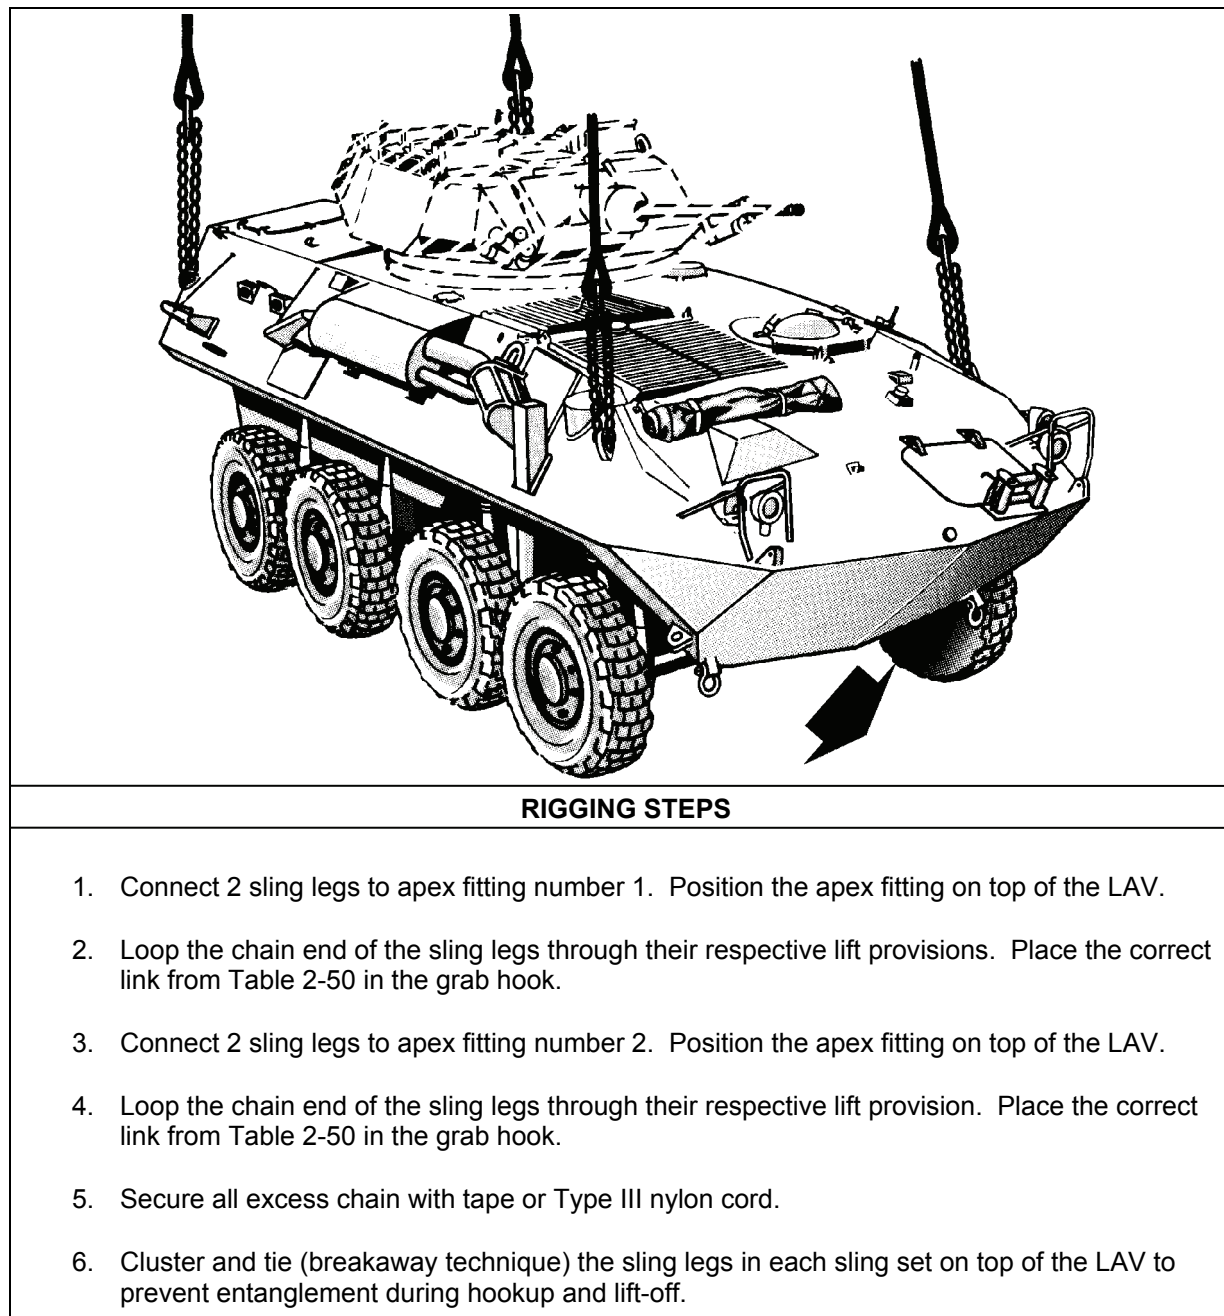

Figure 2-49. Light Armored Vehicle
- **Rigging.** Rig the load according to the steps in Figure 2-49.